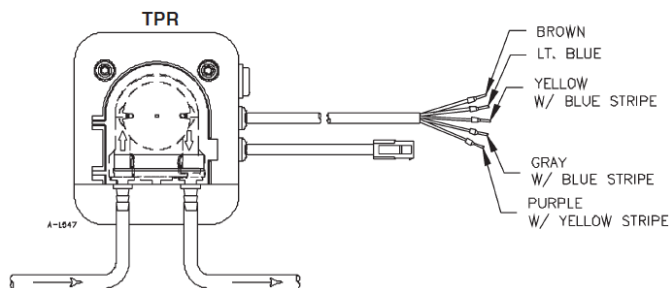

FIGURE 4
**AAR Series** (reservoir control tank) - Connect the brown wire to the main phase (line) and the blue wire to the neutral phase (common) (Figure 4). Make sure power is off when connecting the reservoir to the pump. Connect the cable from the reservoir tank to the pump by connecting the 4-prong plug to the corresponding cable on the pump.
**C and NC** - When water rises, the circuit opens to turn off the compressor and prevents overflow by connecting the gray with the blue stripe wire and the yellow with the blue stripe wire. (Figure 4)
**C and NO** - When water rises, the circuit closes to activate a bell or alarm (not provided) by connecting the gray with the blue stripe wire and the purple with the yellow stripe wire (Figure 4).